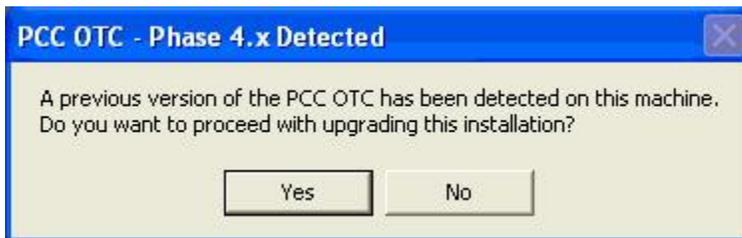

Figure 2.22
3. The screen should indicate that a previous version of PCC OTC has been detected (Figure 2.22). Click ‘Yes’ to continue.